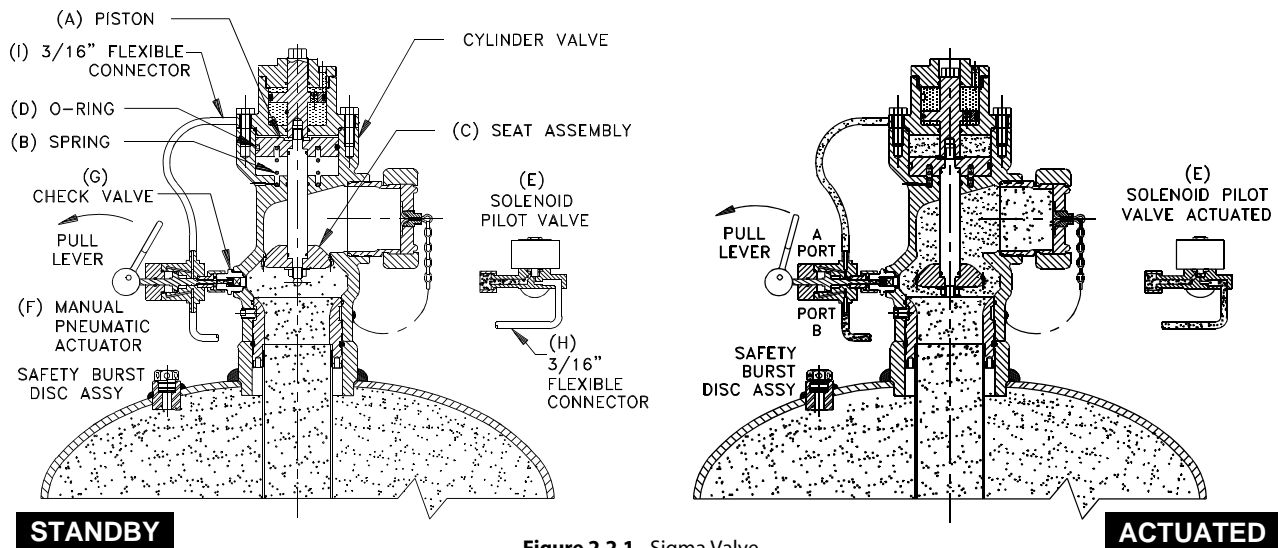

Figure 2.2.1 - Sigma Valve
The Sigma cylinder valve is designed to maintain cylinder pressure below the seat assembly (C) (Refer to Figure 2.2.1). The pressure exerted by the spring (B) and the internal pressure forces a seal between the elastomer in the seat assembly (C) and the machined seat ring in the cylinder valve. An O-ring in the bottom of the cylinder valve provides a seal between the cylinder valve and the threaded cylinder outlet.
Figure 2.2.1 illustrates diagrammatically the two valve modes: **standby**, where the valve is awaiting actuation, and **automatic actuation**, where the valve has been electrically actuated.